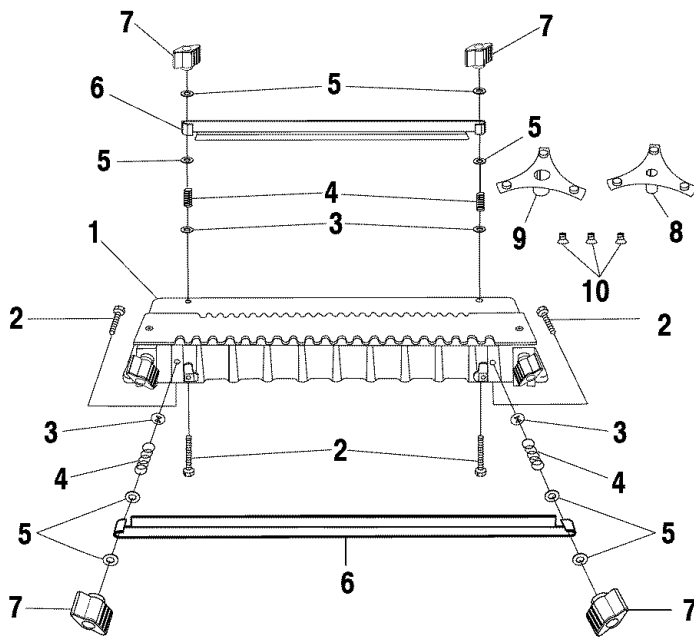

Fig. 1
See Figure 1.
- Insert hex bolts through holes located at top and front of dovetail base as shown in figure 1.
- **NOTE:** For proper assembly, be sure to turn each clamp bar as shown in Figure 1.